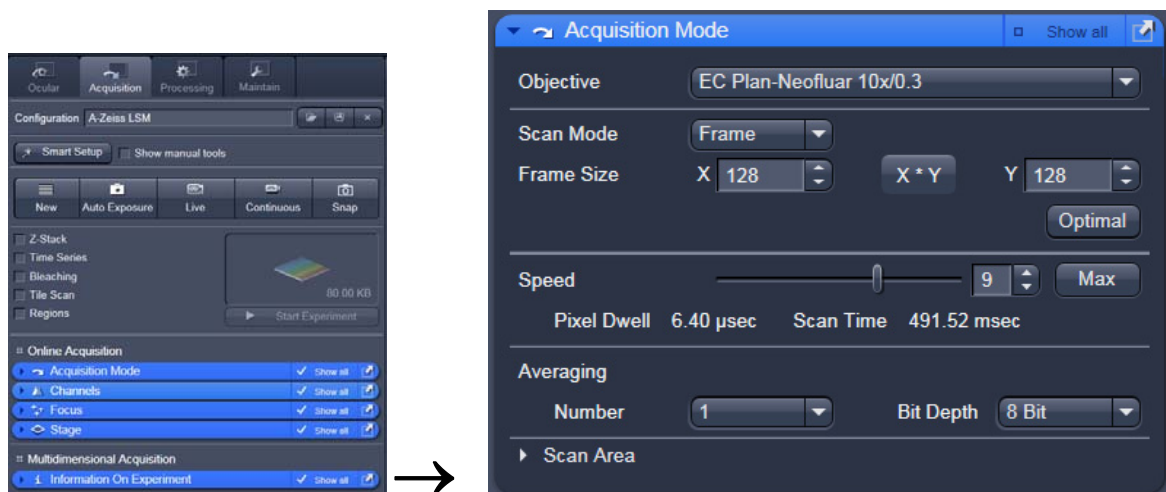

Fig. 20 Acquisition Mode tool
- Select the **Acquisition Mode** tool from the **Left Tool Area** (Fig. 20).
- Use the **Scan Speed** slider in the **Acquisition Mode** tool (Fig. 20) to adjust the scan speed.
- Select the dynamic range 8 or 12 Bit (per pixel) in the **Bit Depth** pull-down in the **Acquisition Mode** tool (Fig. 20).